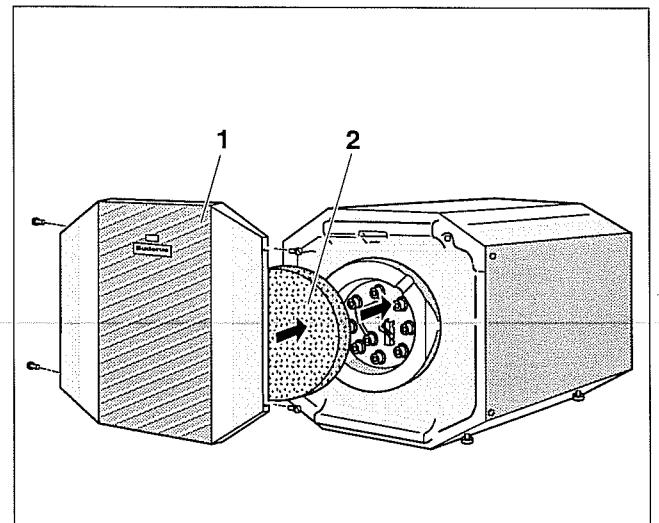

Fig. 20 Installing insulation and front cover
- Put back the insulation ring (Fig. 20, **Item. 2**).
- Put the front cover (Fig. 20, **Item. 1**) back and secure with 4 screws.